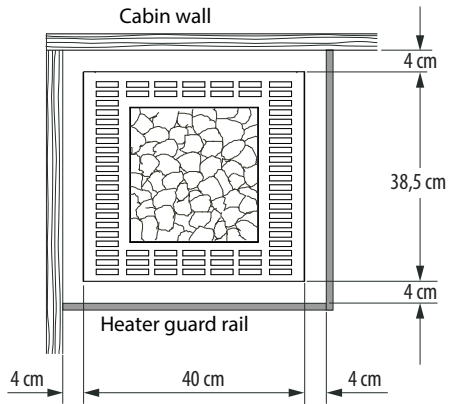

Fig. 2
- By installing the sauna heater make sure that the horizontal (all sides) distance between the heater and cabin wall is at least **4 cm** (Fig. 2).